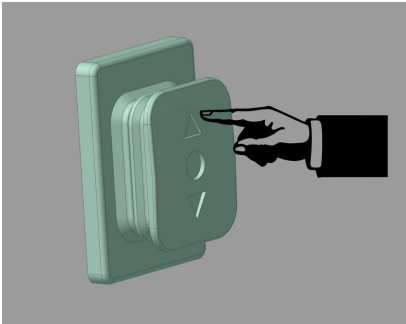

Figure E1
1. Press and hold the wire control switch to electrically open or close the sunshade, and release the switch to stop. When the sunshade is fully opened or closed, the motor will automatically stop. (Figure E1)